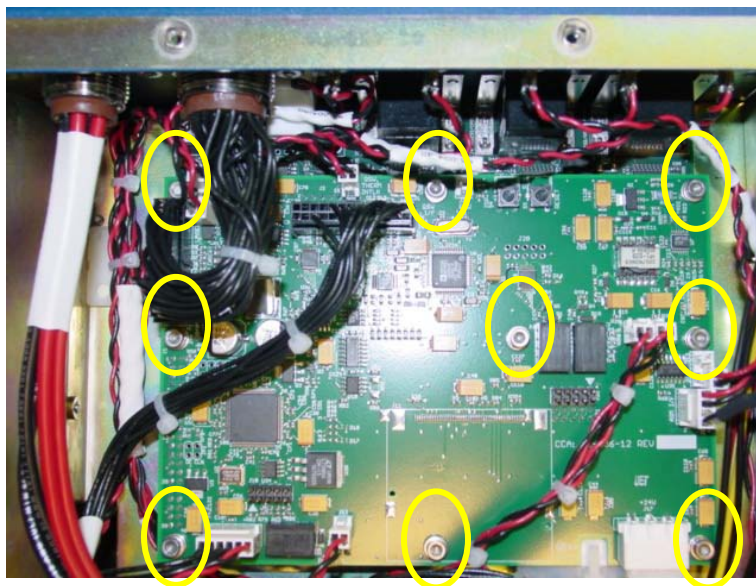

Figure 3 Location of Expansion Module CCA Attachment Hardware
3. Use a 7/64 hex driver to remove the nine (9) 6-32x1/4” screws, lock washers and NAS flat washers attaching the existing expansion module CCA (See Figure 3, below). Take care that parts are not dropped into the controller as this may lead to electrical shorting of components.
8. Re-install the screws and washers to hold board in place. Torque each of the screws to 8 inch pounds (Ref; Figure 3, above).